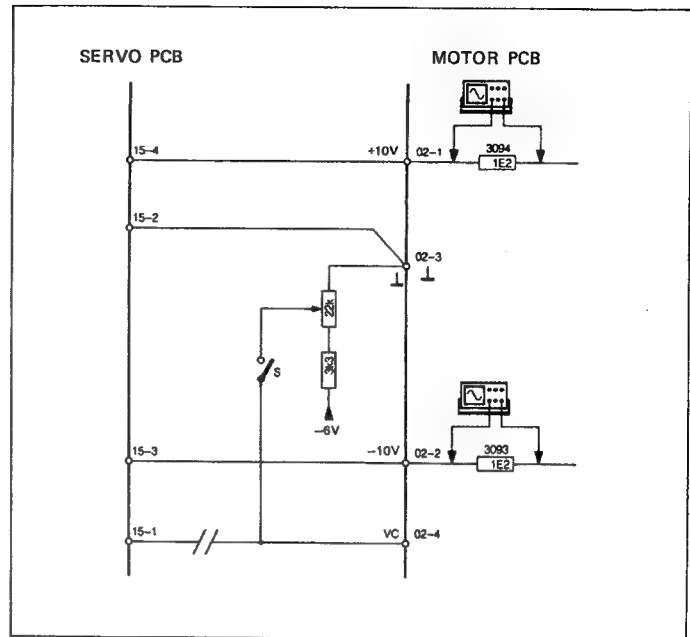
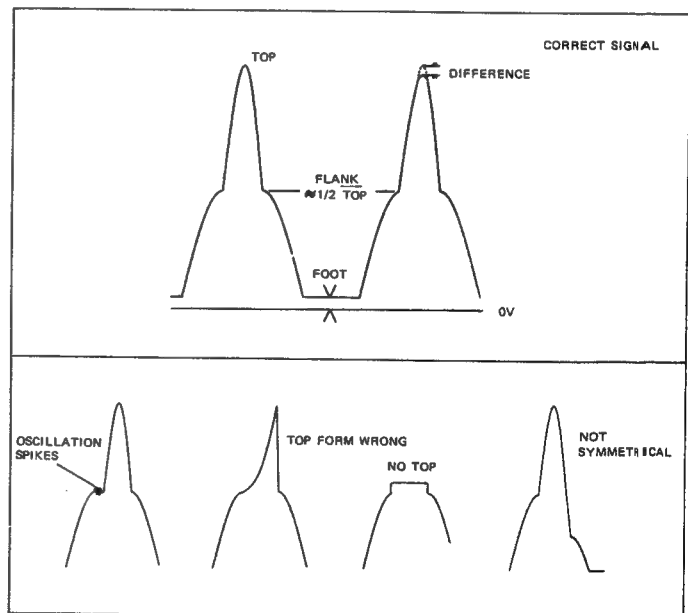

Fig. 4.18
Fig. 4.19
-&gt; Fig. 4.18 / Fig. 4.19
- For a good functioning the signal has to meet the following values (Fig.4.19):
- Examples of the wave form faults see Fig. 4.19.